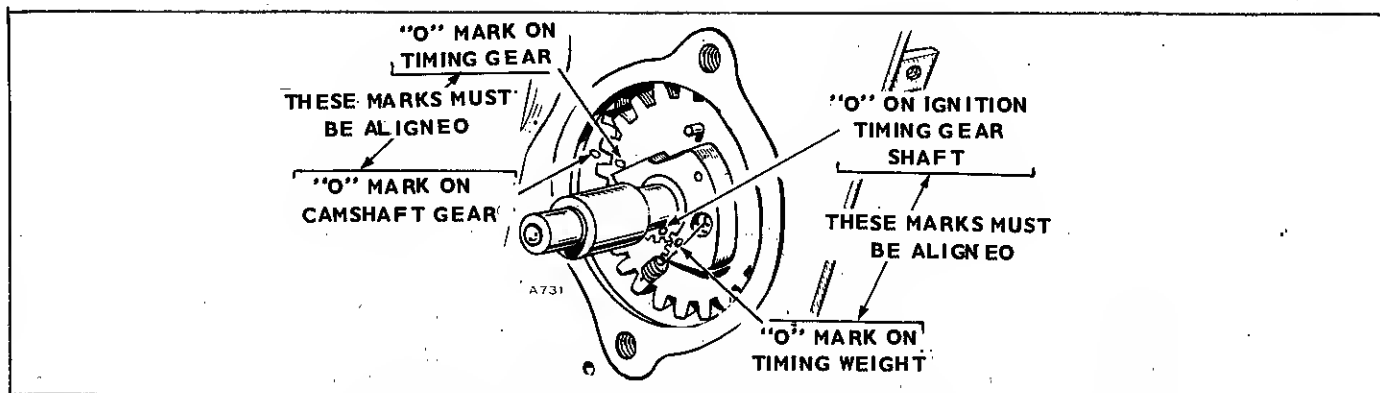

FIGURE 37. TIMING GEAR MARKS
1. Install springs on the weight assemblies. Install the cam on the gear shaft, being sure to align the timing marks, (Fig. 37) and install the cam spring. Weights should snap outward between 1000 and 1075 rpm. If necessary, adjust by lightly bending one or both spring anchor pins toward center of gear.
2. Install the spacer and thrust washer on the gear shaft assembly, and install the assembly into the gearcase, matching the timing marks on the timing gear and camshaft gear (Fig. 37).